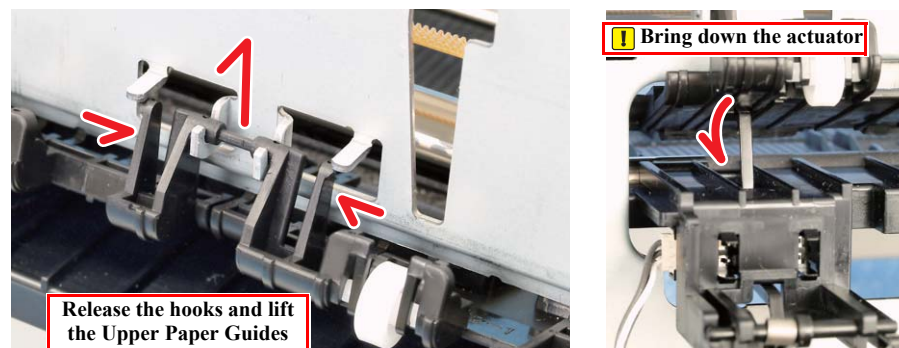

Figure 4-81. Removing the Upper Paper Guides
5. Release the hooks (x3), release the Upper Paper Guides from the shaft holders of the printer frame, lower the actuator of the PE Sensor, and remove the Upper Paper Guides. (Fig. 4-81)